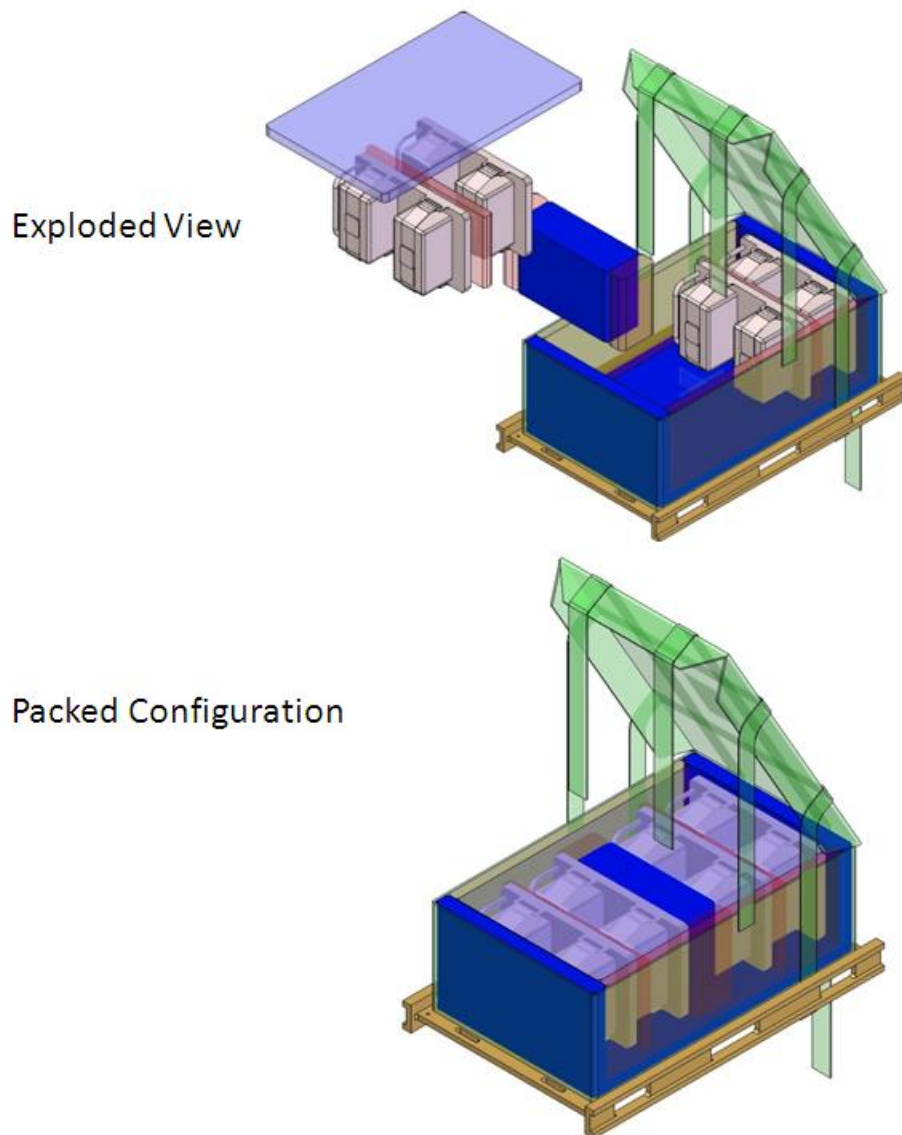

Figure 4. MERLIN Pouch Assembly Containing Neuro Rad.
2.1 Quickly remove Neuro Rad (4) from MERLIN Pouch Assembly (Figure 4), leaving packing material in Pouch.